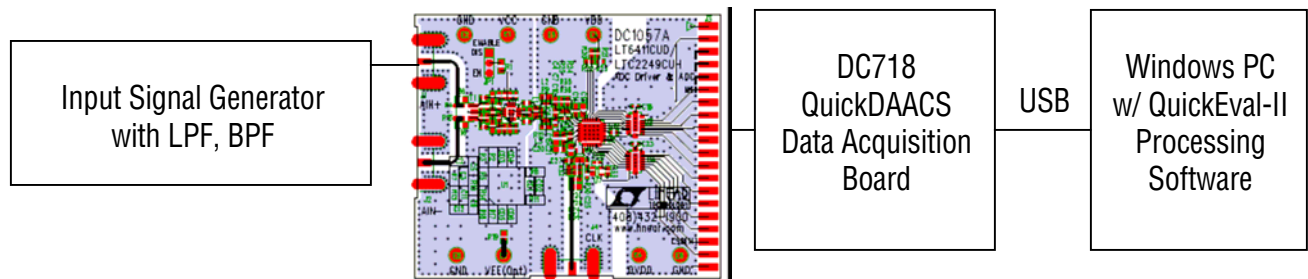

Figure 2. Evaluation Setup with DC718, Computer, and QuickEval-II Software
4. Observe the ADC output with demo circuit DC718, a USB cable, a Windows computer, and Linear Technology's QuickEval-II data processing software. See Figure 2 for the general board evaluation setup diagram.